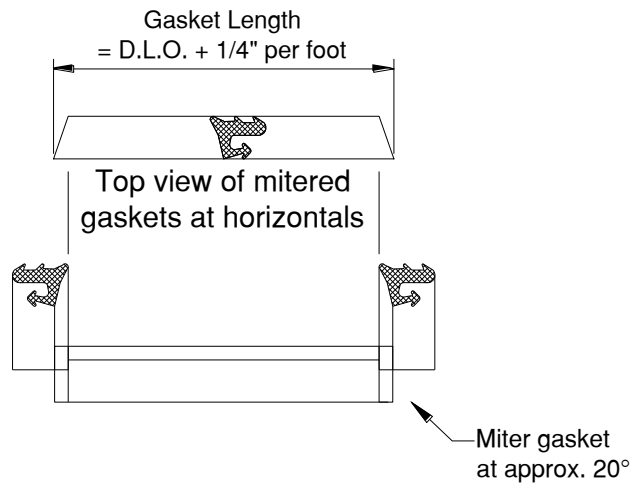

Figure 32: Exterior Gasket Cut Detail
- 17.2.5 Cut the **FG-5730** or **FG-5736** Gasket a minimum of 1/4" per foot longer than the D.L.O., to provide adequate compression, and miter the ends of the gaskets at a 20° angle, as shown in Figure 32.